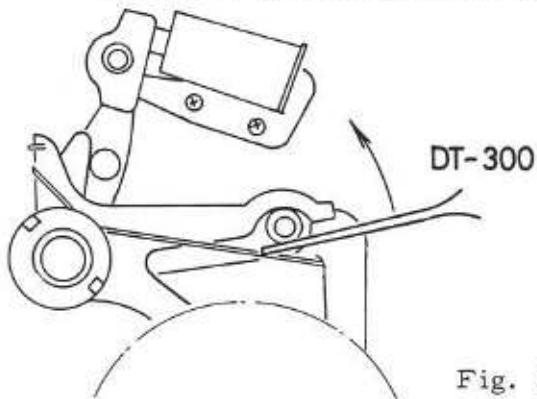

Fig. 21
- 19-2 Set a Dial tension gauge as shown in Fig. 21 and make sure the holding strength of the Magnet (S101).